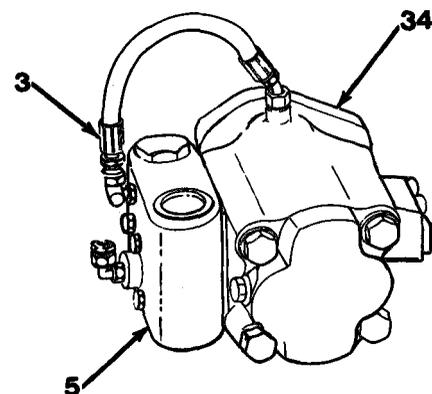

Figure 16-3
3. Disconnect hose (3) from winch brake valve assembly (5, Figure 16-3).
4. Remove hose (3) from motor (34).